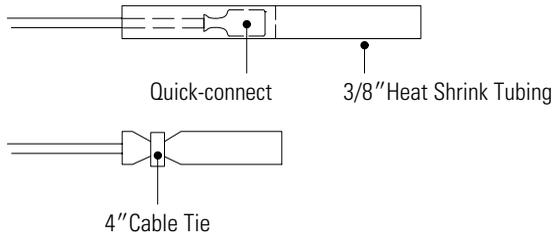

Figure 11. Covering the Quick-connect on the 8 kVA – 18 kVA UPS
- Place 3" of the provided heat shrink tubing over the quick-connect. Fold the remaining tubing over the covered quick-connect and secure it with the provided 4" cable tie (see Figure 11).